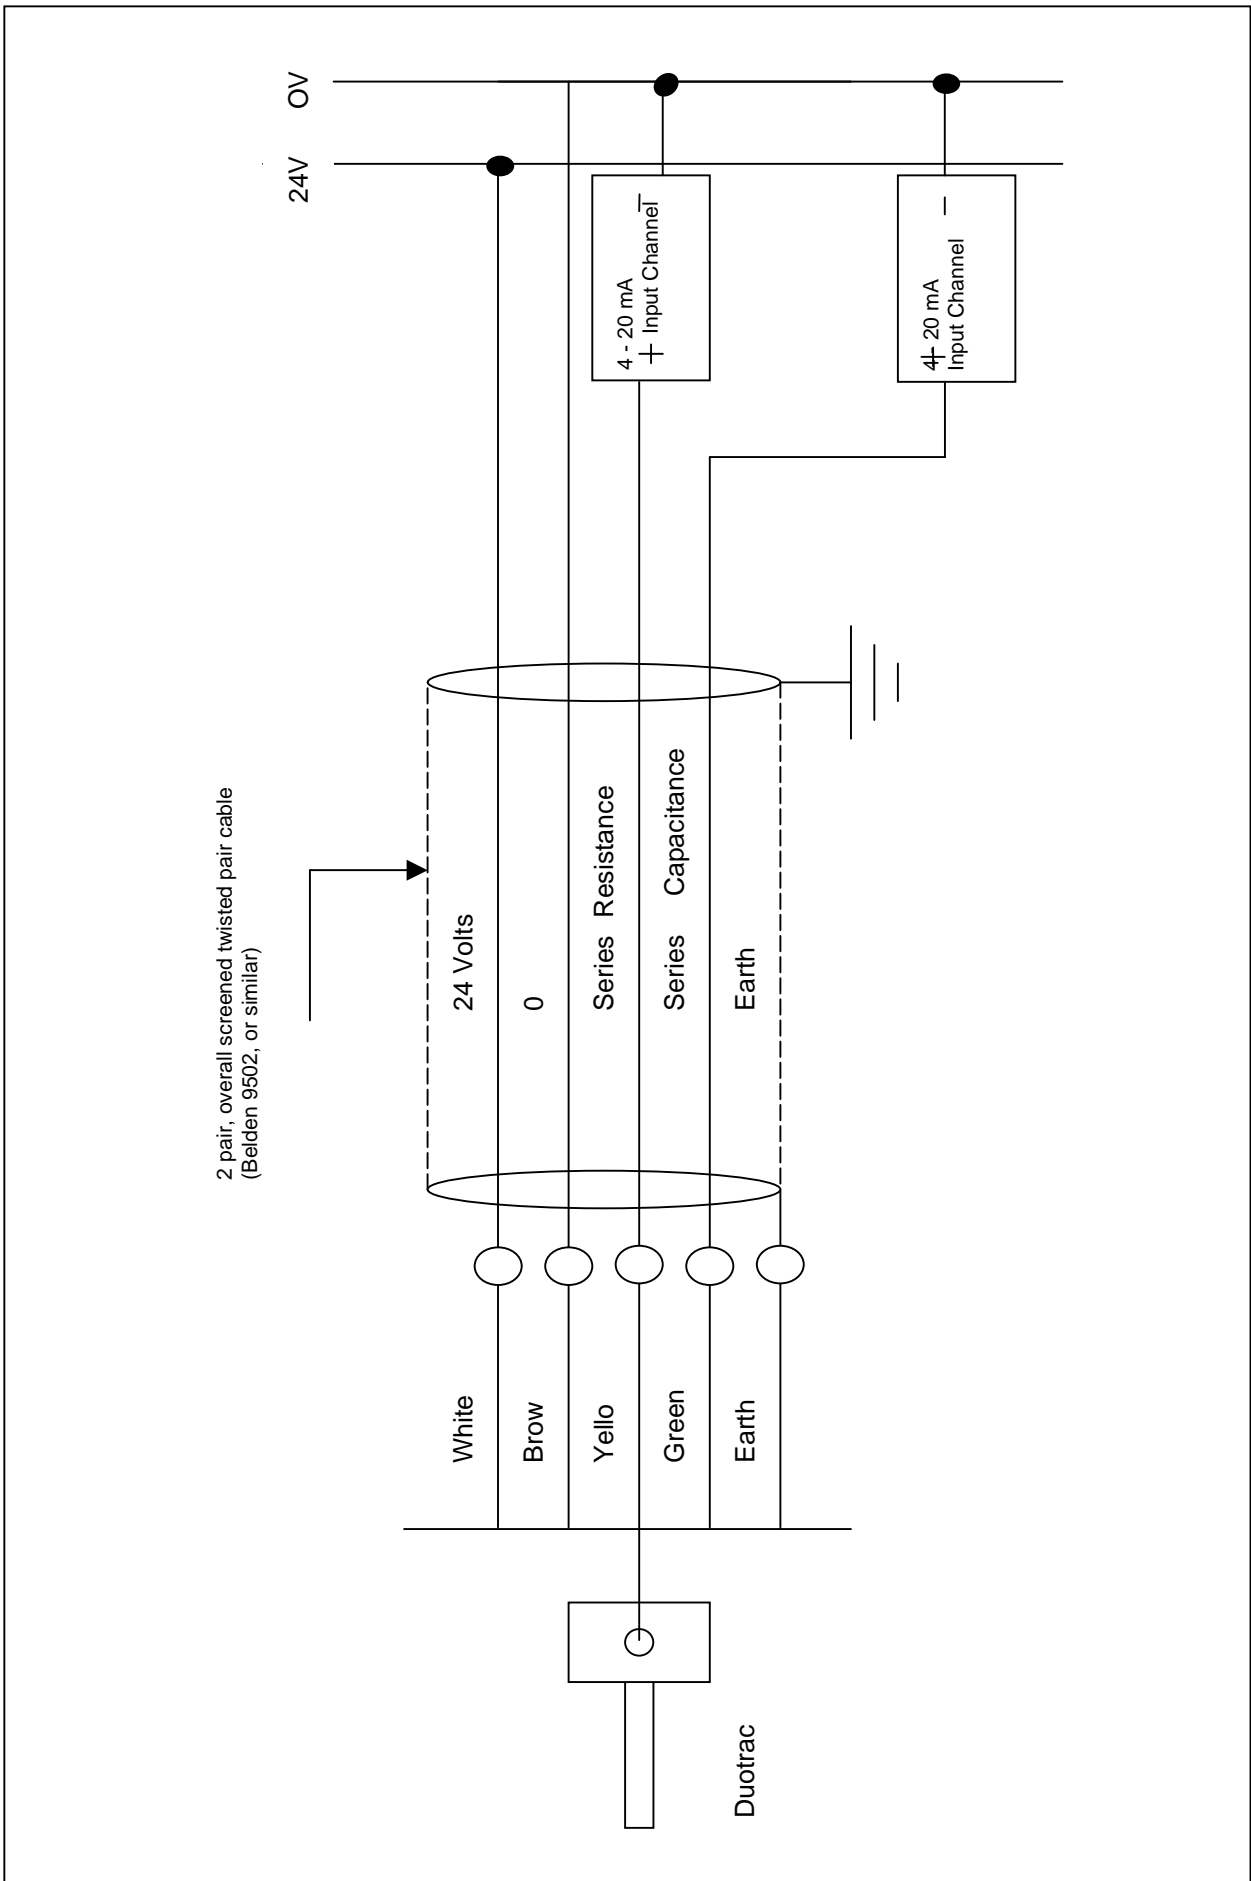

Figure 11: Typical Cable Termination
2. Cable shields should be terminated to ground at the control panel end, and should be connected to the earth wire provided at the probe end of the cable. See Figure 11 for typical cable termination.